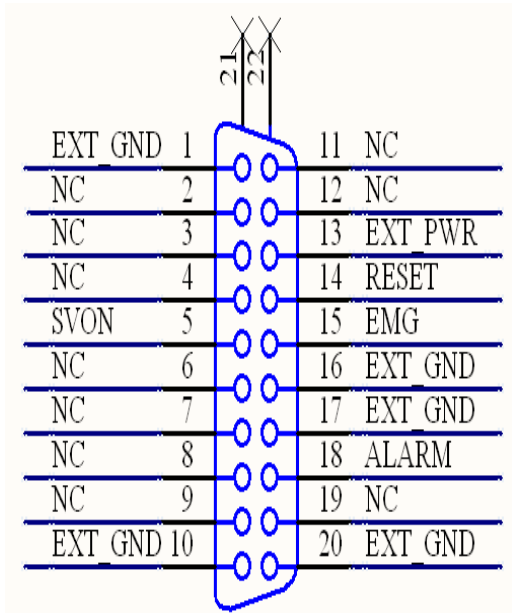

Fig B2-6 Pin definition for CN-XB, CN-YB
■ **CN-XB & CN-YB (Fig B2-6 connector for each AXIS )**
The connectors CN-XB and CN-YB are 20-pin connectors that enable you to connect to the CNB connector of your motor drivers. Fig.B2-6 shows the pin assignment for the 20-pin connector on the DN-8237-MB, and the Table B2-6 shows its I/O connector signal description.